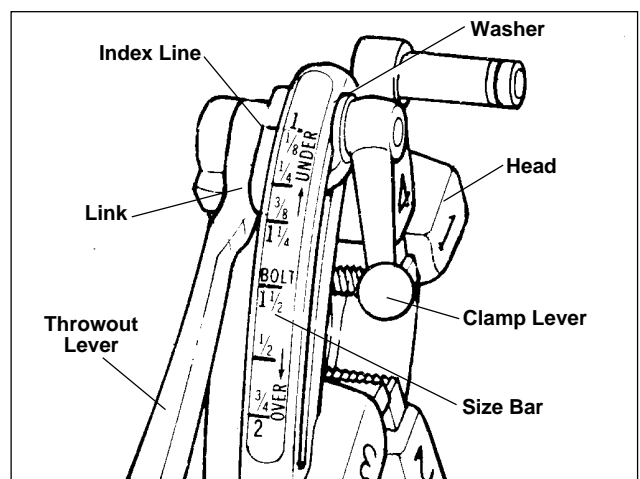

Figure 12 – Universal Quick-Opening Die Head
5. Quick-Opening 811A Die Head (Figure 12) – Rotate throwout lever to the CLOSED position.
10. Quick-Opening 811A Die Head (Figure 12) – When thread is completed, raise throwout lever to open position, retracting dies.
NOTE! The No. 811A Universal Die Head (Figure 12) for right hand threads requires four sets of dies to thread pipe ranging from 1/8" through 2". One set of dies is required for each of the following pipe